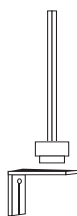

fig.3
Step 3. Screw supplied Edison base adaptor into the socket (fig.3).